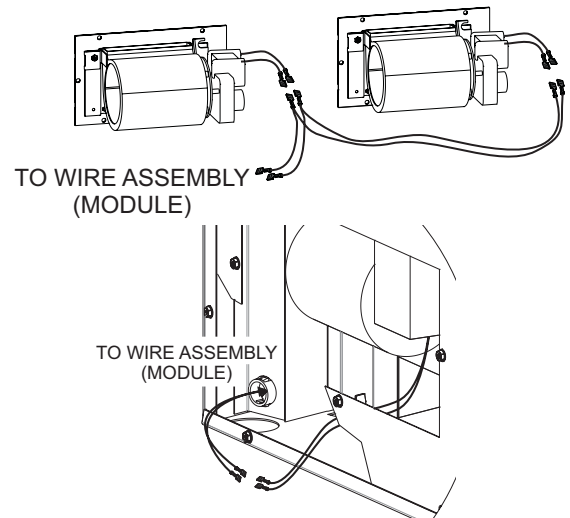

Figure 12
7. Remove protective connectors on Wire Assembly from fireplace and discard. Connect Wire Harness to both blowers and the other end to the Wire Assembly supplied with the fireplace. (Figure 12)